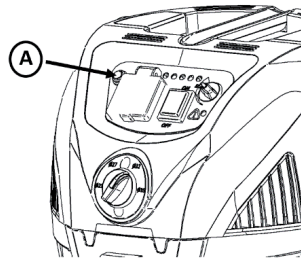

Fig. 19
The automatic filter cleaning can be turned on /off with the switch on the panel (A) on Fig. 19. When the switch is illuminated the automatic filter cleaning is active